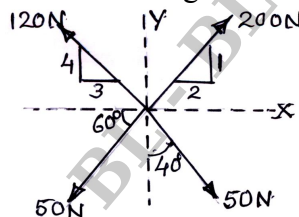

Fig.Q.1(c)
- c. Determine the resultant of forces which are acting over a body as shown in Fig.Q.1(c).